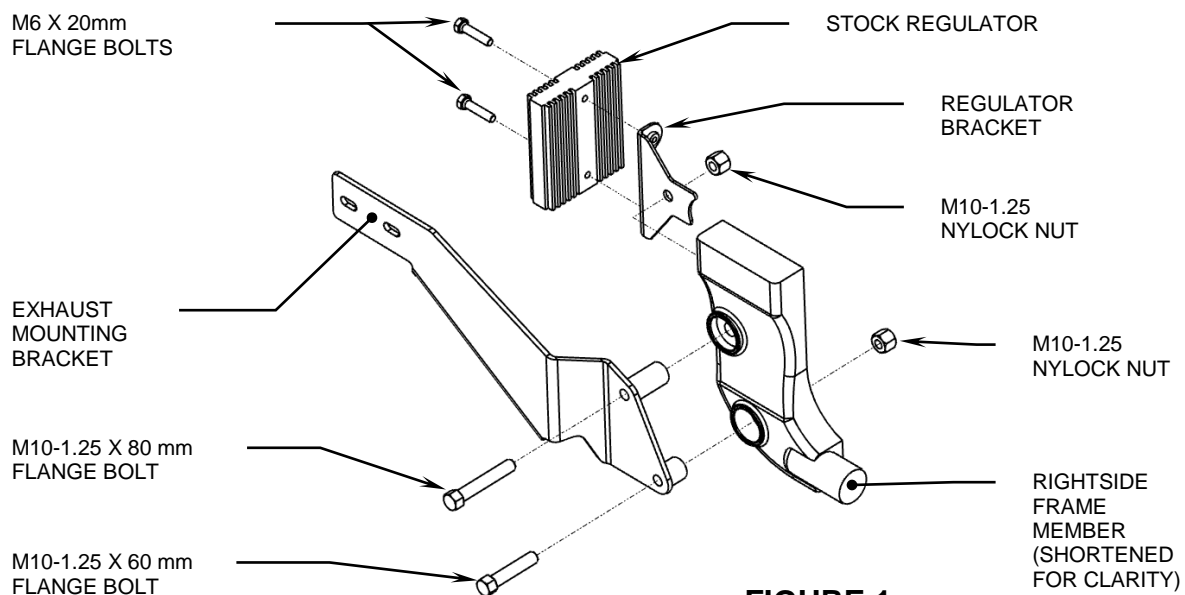

FIGURE 1
2. Install exhaust mounting bracket into frame where stock mount was removed by inserting the supplied M10 x 80 mm bolt into the top mounting hole and the shorter M10 x 60 mm into the lower and thru the frame, see Figure 1. Start the supplied M10 Nylock nut on to lower bolt but **DO NOT TIGHTEN**.
3. Take the supplied voltage regulator relocater mounting bracket and slide over the upper M10 exhaust mounting bolt installed in Step 2 on the inside of the frame, see Figure 1. Start the supplied M10 Nylock nut onto bolt and snug. Make sure regulator bracket is in a vertical position and bolt the voltage regulator to mounting bracket with the supplied M6 flange bolts and tighten.